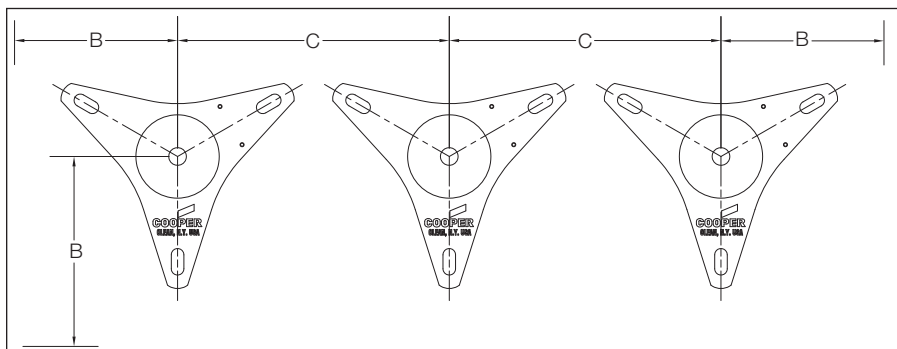

Figure 4.
Figure 4 illustrates an in-line mounting arrangement; the applicable values of "B" and "C" may be found in Table 5. Line and Earth terminal details are shown on Page 10, options 11 and 12. Figure 8 shows an outline drawing of the standard UltraSIL Polymer-Housed VariSTAR Class 3 Arrester. The values for Dimensions "A" and "D" for all ratings are listed in Table 5.
1. Refer to Figure 4 for illustrations of dimensions B and C and Figure 8 for dimensions A and D.